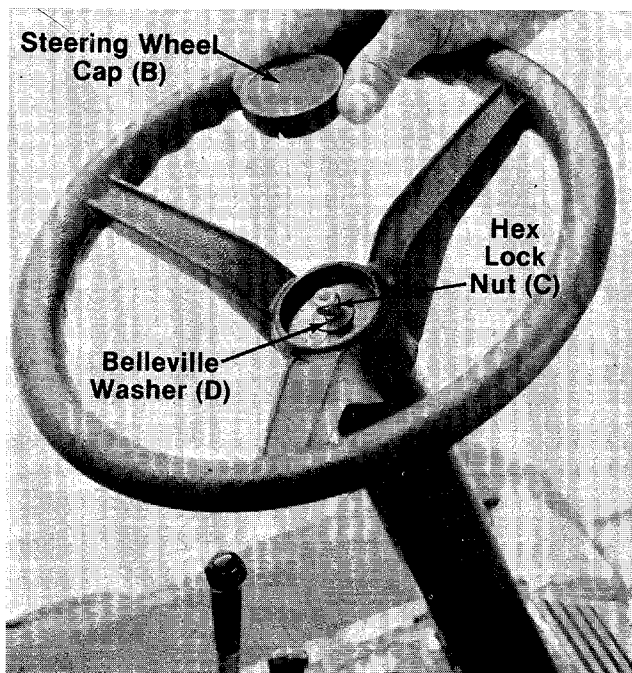

FIGURE 8.
8. Place the steering wheel on the tubing assembly and fasten with belleville washer (D) and hex lock nut (C). See figure 8.
9. Place the steering wheel cap (B) on by hand. See figure 8.